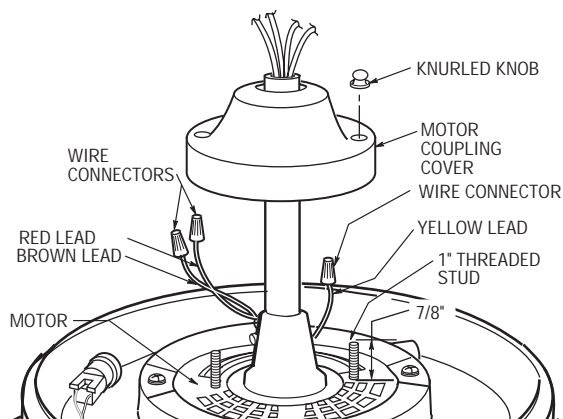

Figure 20
- 10. Screw two 1" threaded studs (provided) into the motor (Figure 20). Leave approximately 7/8" of the stud extending above the motor. Slide the motor cover over the downrod and rotate the cover until the threaded studs protrude; install two knurled knobs (supplied) to secure the cover.